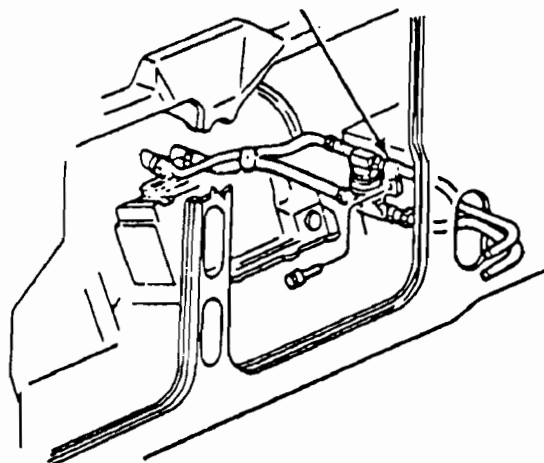

Figure 58
1. The existing cooler hoses are retained by a clip at the ABS Module, as shown in Figure 58. Drilling of a hole is not required on this model.
7. Re-install the retaining clip to support the bypass valve assembly, as shown in Figure 58, and tighten all hose clamps and retaining clips.
8. The bypass valve assembly must be positioned vertically (See Figure 58).